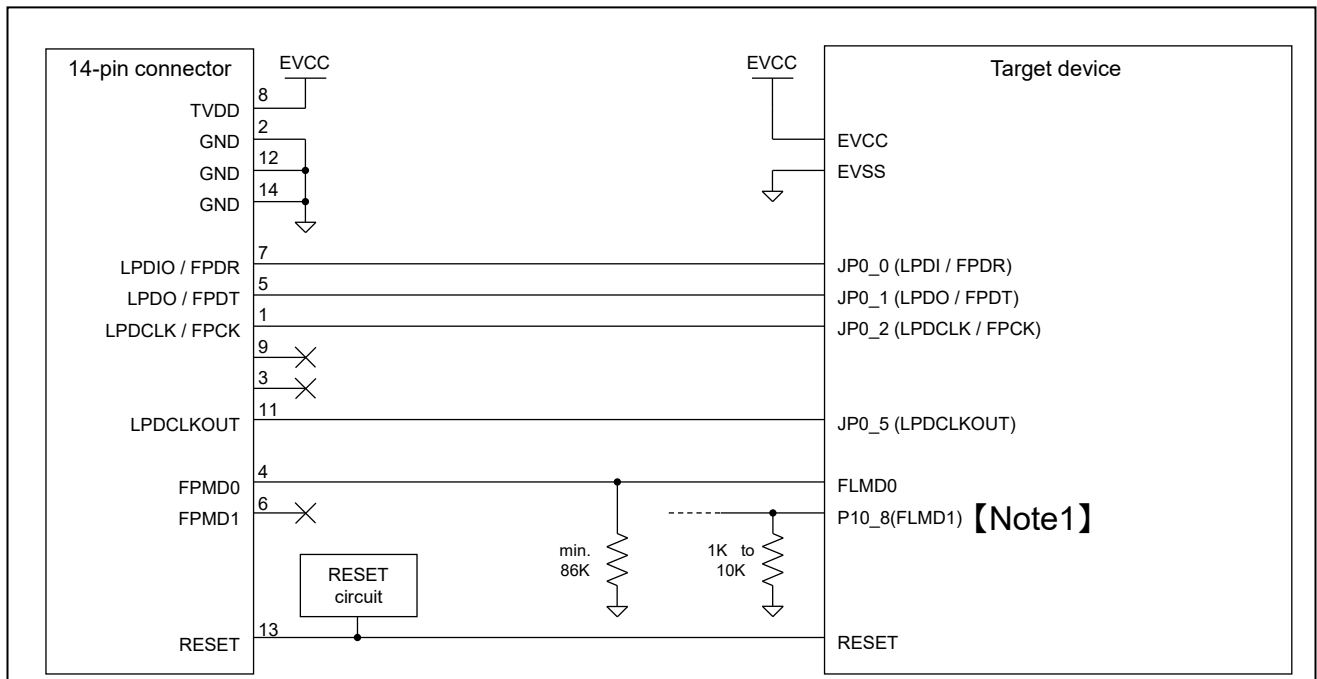

Figure 2-4 Example of Connection
Both debugging (4-pin LPD) and programming (1-wire UART or 2-wire UART)	Figure 2-4
- Note 2: Pulling up of JP0_0 is only necessary if you are using the 1-pin LPD interface. If you are not using 1-pin LPD, make the connections shown in Figure 2-4.
(3) Connection which allows Both debugging (1-pin LPD) and programming (1-wire UART)